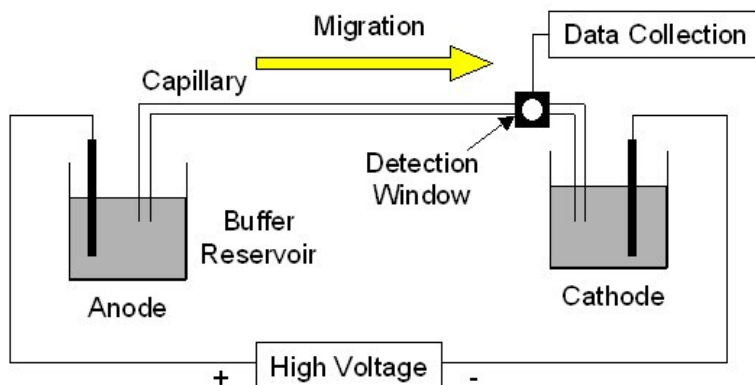

Figure 1
Capillary electrophoresis (CE) is a relatively new, but rapidly growing separation technique that has numerous applications for chemical and biochemical analysis. Capillary electrophoresis techniques separate molecules or ions in a number of ways depending on the type of capillary and buffer solution which are used. Capillary zone electrophoresis (CZE) is the most common mode of CE and separates mixtures based on the overall mobility of analytes in solution under the influence of an electric field. A schematic of a basic capillary electrophoresis experiment is shown in Figure 1. When a high voltage is applied between the anode and cathode, ionic species in solution will begin to migrate based on their mass and charge, with cations migrating to the cathode, and anions to the anode. The tendency for species to move in such a field is called the *electrophoretic mobility* (μ_{ep}). In general small, multiply charged ions have a larger μ_{ep} than larger, less charged species, with neutral molecules possessing negligible μ_{ep} . In parallel with electrophoretic movement is a net motion of all species in solution toward the cathode as a result of *electroosmosis*. The presence of an electrical double-layer on the walls of the capillary aids in the general motion of solvent (often containing water) toward the cathode compartment. As a result of interactions with this moving solvent, solutes are also drug toward the cathode. In CZE, the separation is the result of the combination of electrophoretic and electroosmotic flow.